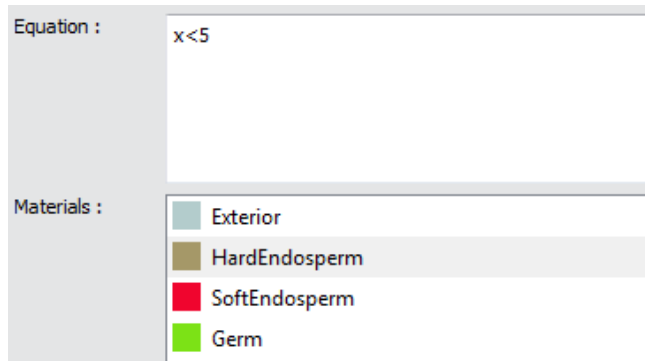

Figure 18.27: Equation Mode
- *Equation*: The equation mode lets you select any element of a given material based on a given equation (Figure 18.27). The vertex components are accessed through X, Y, and Z variables. A triangle is selected if all three vertex positions match the equation condition. For example, the "x < 5" will select all triangles in which the X component of all three vertices is less than 5.